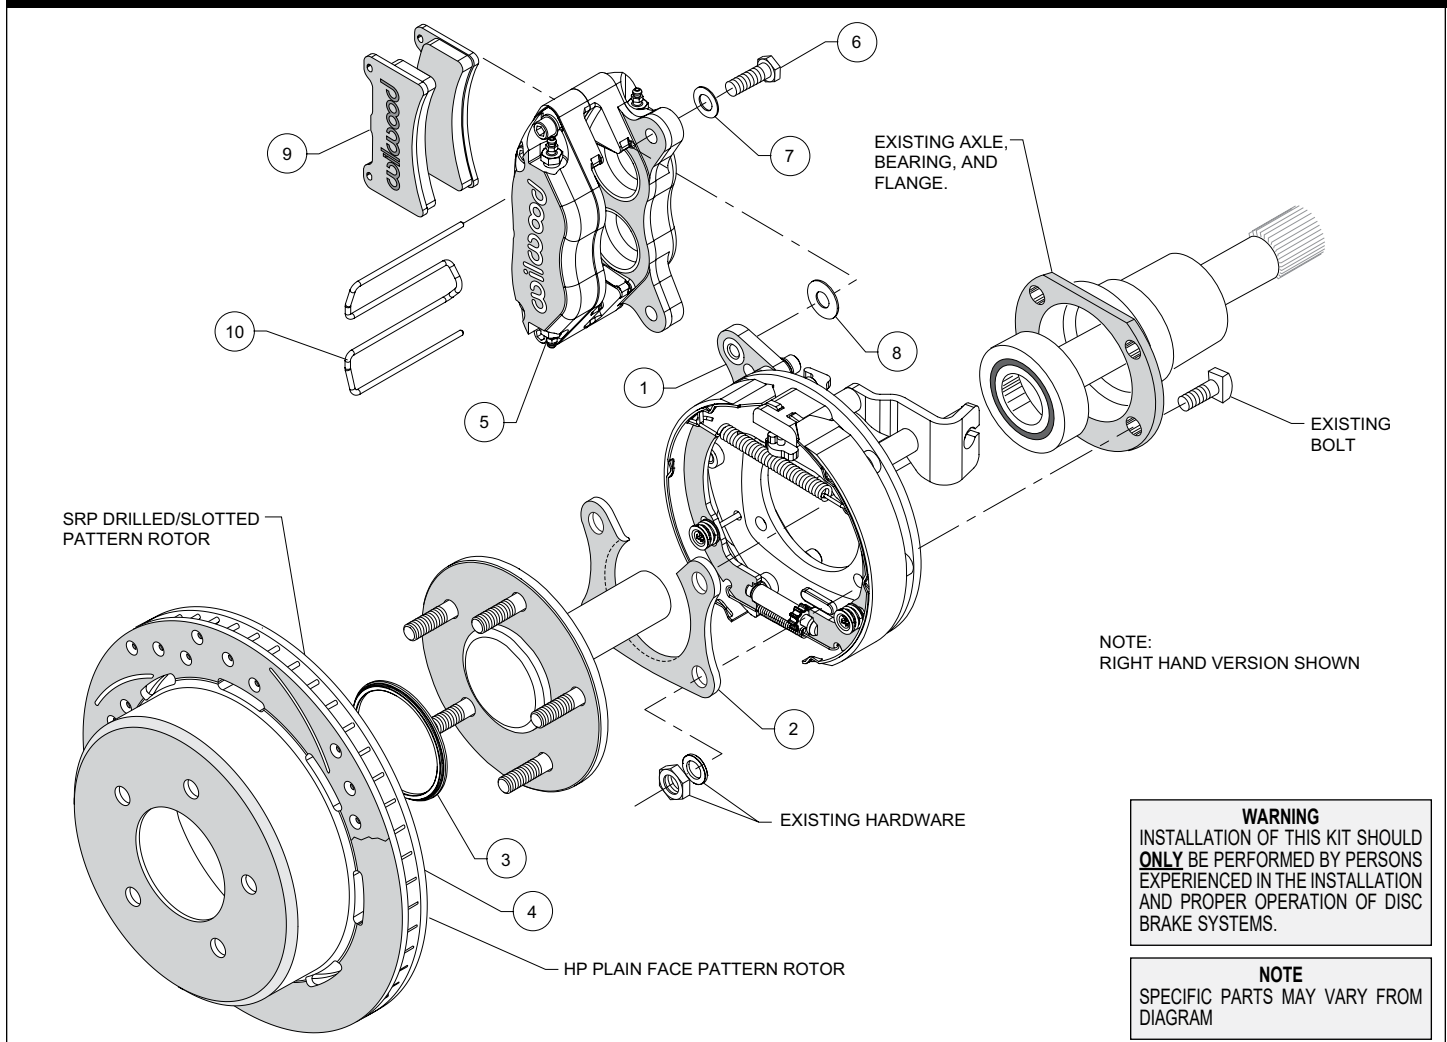
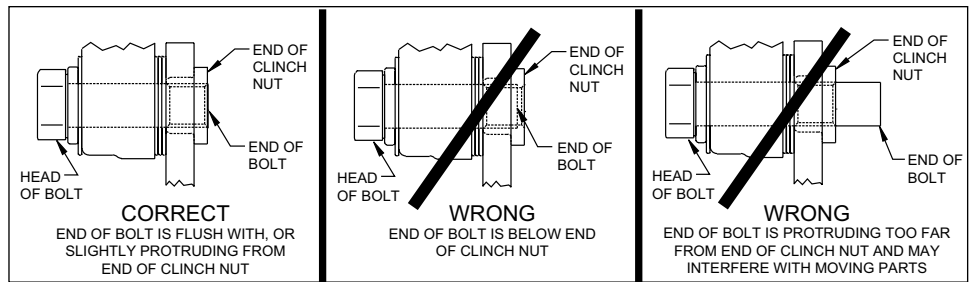

Figure 1. Typical Installation Configuration
Figure 5. Clinch Nut Engagement Diagram
**NOTE:** Numbers in parenthesis refer to the parts list and Figure 1 on the preceding pages.
**CAUTION:** All mounting bolts must fully engage clinch nuts. Be sure to check that all bolts are either flush or protruding through flanged side of clinch nut after shimming, Figure 5.
- Orient the bracket assembly (1) as shown in Figure 1 and Photo 1, and slide it onto the axle. Insert the axle and bracket into the axle housing. Ensure that the bracket assembly backing plate fits flush against the axle housing flange.
- Install the bearing retainer (2) with the opening pointing upward and the lip facing inward (toward the bearing), as shown in Figures 1 and 4, and Photo 2. Secure retainer and bracket assembly to the axle housing flange using the Original Equipment Manufacturer (OEM) bolts, washer, and nuts, Figure 1. Apply red *Loctite*® 271 to the OEM bolt threads and torque to OEM specifications.
•Slide the rotor registration adapter (3) onto the axle register on the axle flange with the smaller O.D. facing toward the rotor/hat (4), Photo 3. Align the hole pattern in the rotor/hat with the stud pattern on the axle flange and slide into place, Figure 1 and Photo 4. **NOTE: The rotor/hat must fit flush against the axle flange or excessive rotor run out may result.** Install three lug nuts (finger tight) to keep the rotor/hat assembly in place while continuing with the installation.
•**NOTE: Please reference the caution statement at the beginning of the assembly instructions.** Mount the caliper (5) onto the caliper mounting bracket (1) using bolts (6) and washers (7), as shown in Figure 1. Initially place one .035" thick shim (8) on each bolt between the caliper and the bracket, Photo 5. Temporarily tighten the mounting bolts and view the rotor (4) through the top opening of the caliper. The rotor should be centered in the caliper, Photo 6. If not, adjust by adding or subtracting shims between the bracket and the caliper. Always use the same amount of shims on each of the two mounting bolts. **NOTE: The end of each bolt must be flush with or slightly protruding from the head of the clinch nut, as shown in Figure 5.** If necessary place spare shims between washer (7) and caliper mounting ear to achieve the proper clinch nut engagement. Once the caliper alignment and clinch nut engagement are correct, remove the bolts one at a time, apply red *Loctite*® 271 to bolt threads, and torque to 40 ft-lb.
•Install the disc brake pads (9) into the caliper, with the friction material facing the rotor (4), and secure in place using pad clip retainer (10), Photo 7.
•**NOTE: Clevis and cable kits which attach to the parking brake assembly are not included in the Wilwood parking brake kit.** Wilwood offers a generic style parking brake cable kit, P/N 330-9371 for this application which can be ordered separately from your local Wilwood dealer or by calling Wilwood customer service at (805) 388-1188.
•Before final installation of the wheel, install three lug nuts, remove the rubber grommet in the bracket kit assembly (1) and adjust the parking brake shoes outward (using a drum shoe adjustment tool available at your local auto parts store) while spinning the rotor/hat (4) until a slight drag is felt against the hat/drum. Replace the rubber grommet when finished.